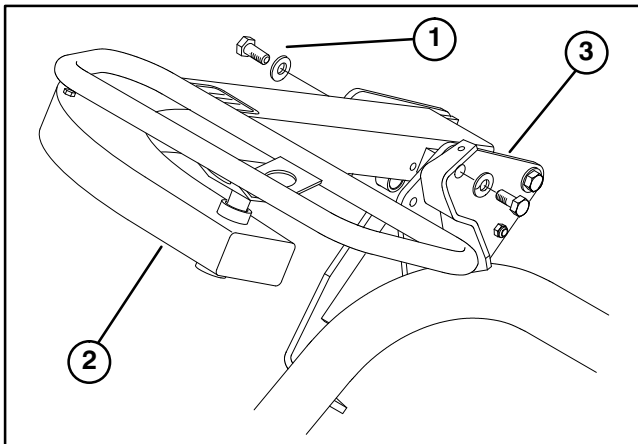

**Figure 3**
## MOUNT SEAT (Fig. 3)
3. Secure seat, seat panel and seat slides to seat support with 5/16–18 locknuts supplied in loose parts. Seat cover to be mounted on right side, positioned as shown in fig. 3.